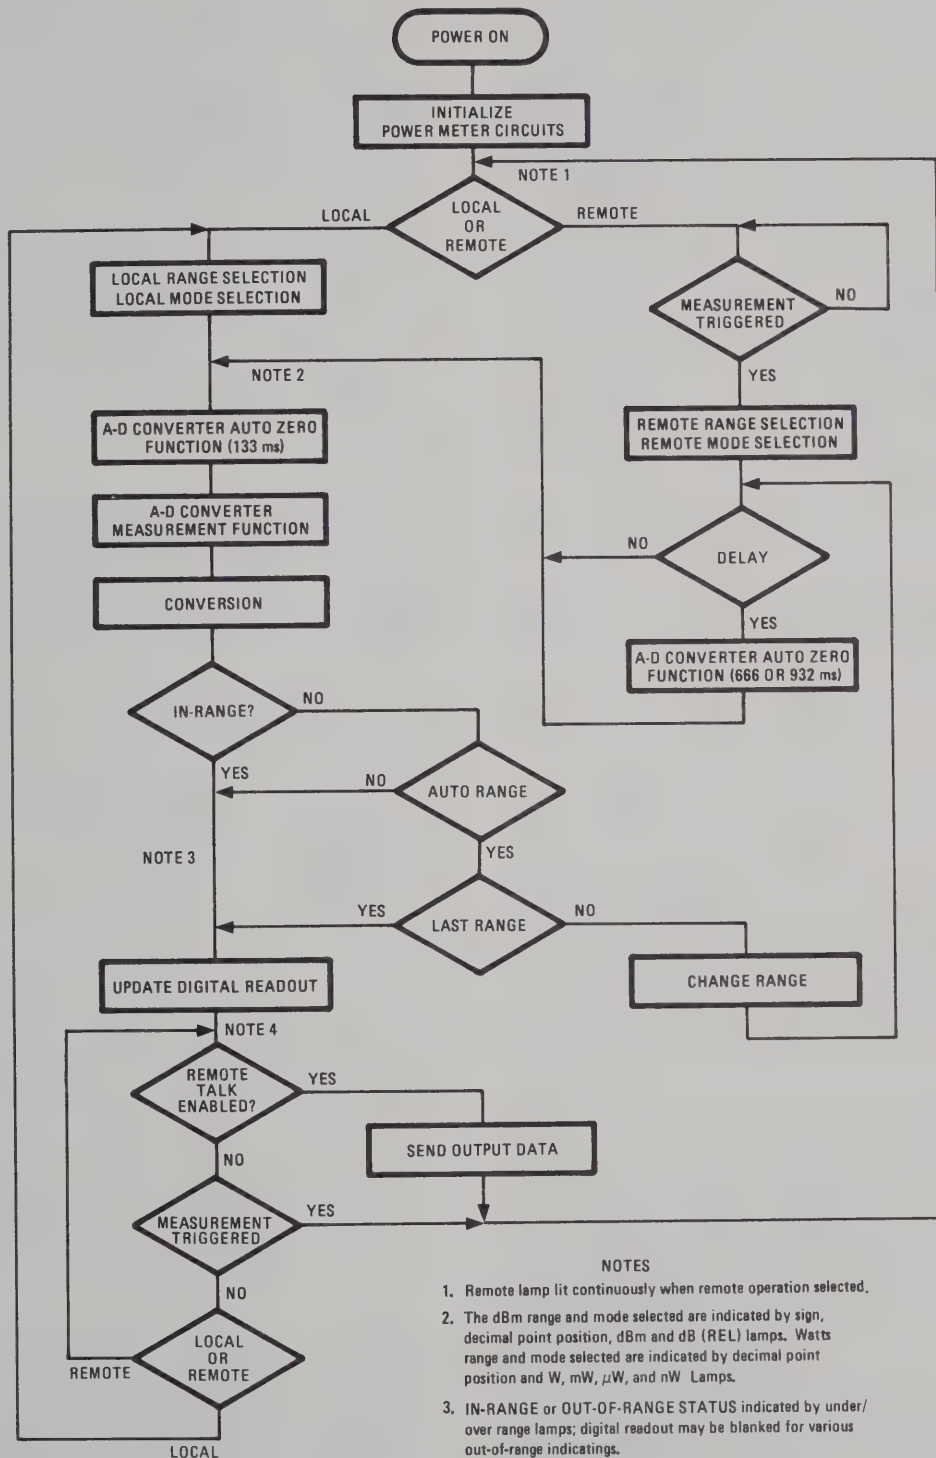

Figure 8-14. Power Meter Operating Cycle
a. Look at the front-panel display while referring to Figure 8-14 and try to determine what portion of the operating program that the fault is associated with. Note that the range and mode indications are generated at the start of the program cycle, the in-range/out-of-range status indications are generated next, then the digital readout is updated at the end of the program cycle. (When autoranging is enabled and an out-of-range conversion is detected, additional measurements are taken until an in-range conversion is detected, or until an out-of-range conversion is detected on the last range. Thus, the digital readout is not updated until after the last conversion of the program cycle.)